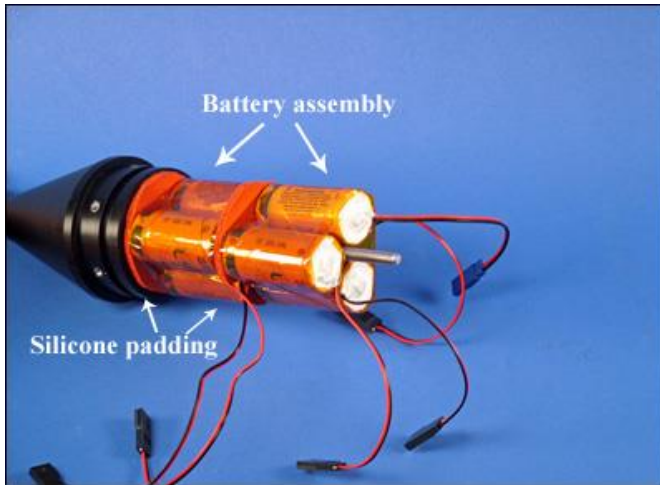

Fig. 3 Lock nut, polycarbonate plate and silicone pad removed. Batteries ready to be removed from nose cone assembly.
3. Obtain a 7/16" wrench and remove the lock nut and washer assembly. Remove the polycarbonate plate, silicone pad and expose the batteries (**Fig. 3**) which are now free to be removed from the nose cone assembly. Slide the batteries off of the threaded rod. Retain all silicone padding to be used with the new battery assemblies that will be installed.